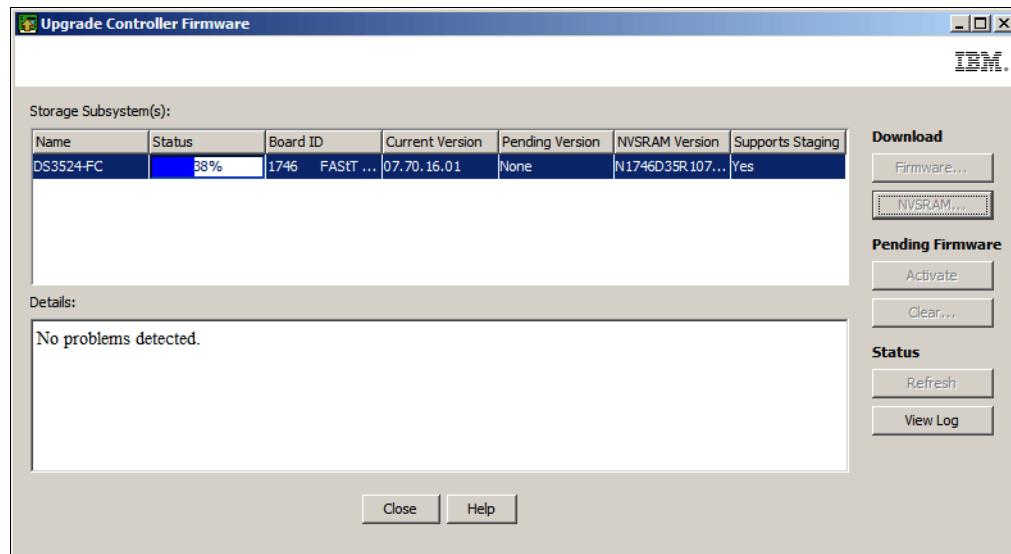

Figure 14-48 Transferring the firmware and NVSRAM
- c. The status of the transfer of the firmware and NVSRAM can be monitored in the tool as shown in Figure 14-48.